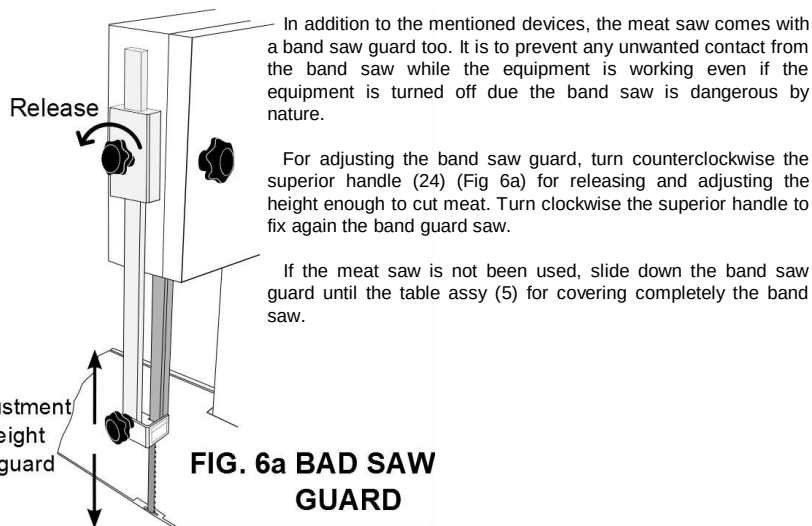

FIG. 6a BAD SAW GUARD
For adjusting the band saw guard, turn counterclockwise the superior handle (24) (Fig 6a) for releasing and adjusting the height enough to cut meat. Turn clockwise the superior handle to fix again the band guard saw.